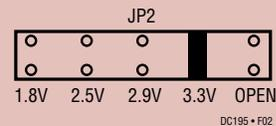

Figure 2. Output Voltage Selection (JP2) (3.3V Position Shown)
- Set the desired output voltage with jumper JP2, as shown in Figure 2 and Table 1.